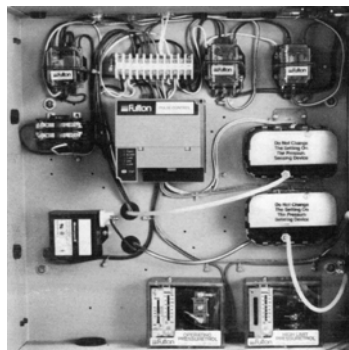

Figure 6
16. Installing Field Wiring (Figure 6)
- a) It is recommended that an independent power supply line be provided for the boiler. Connect one 120 volt (60Hz) fused power line to terminal block as shown in Figure 6. Connect applicable wires to neutral and ground. Connect a ground wire to green colored ground lug in electrical control box. See Figure 8 & 9 for a detailed electrical drawing. A detailed electrical drawing should be inside the panel of the boiler.